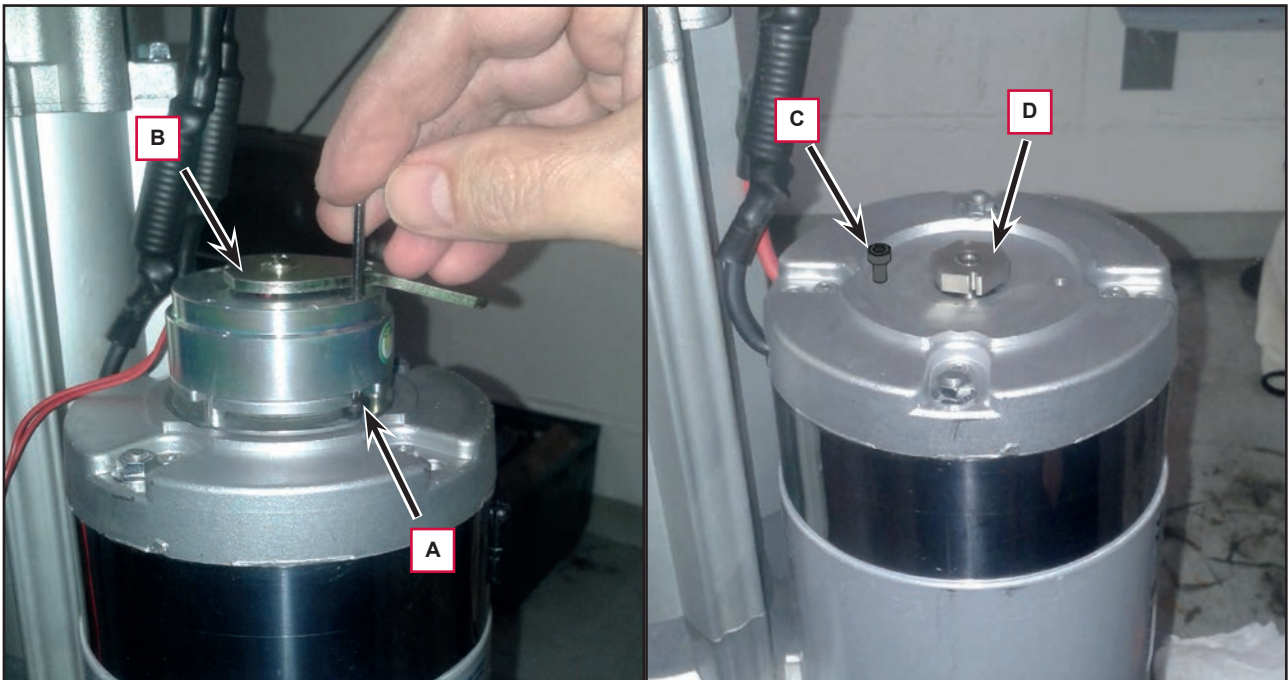

Figure 9
3. Remove the two screws (A, Figure 9) and the electromagnetic brake (B).